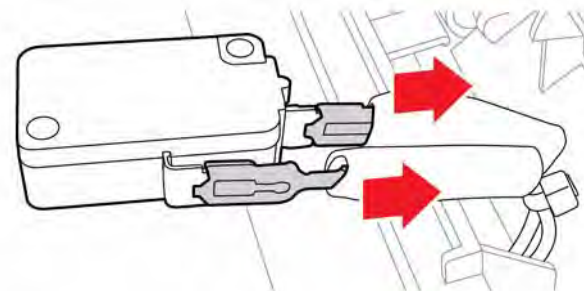

Figure 2 Remove the switch from the harness
4. Slide the insulation off the switch terminals and using a small screwdriver, release the harness connectors from the switch, Figure 2.